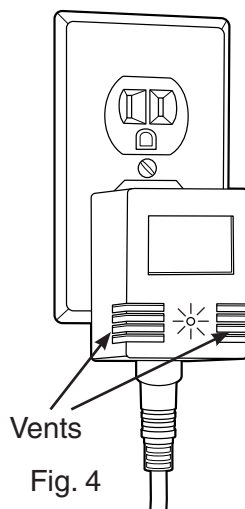

Fig. 4
9. Plug ballast into a standard 120V 50/60Hz outlet. Turn lamp on. The green LED indicator on center of the ballast should be illuminated. (Fig. 4) If the LED indicator does not illuminate, please refer to the troubleshooting section of this manual. (See page 9)